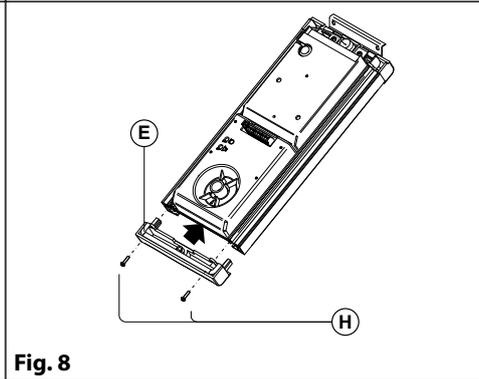

Fig. 8
8. Secure the modules by refitting the plastic cover **E (Fig. 8)** and using the screws **H (Fig. 8)**;